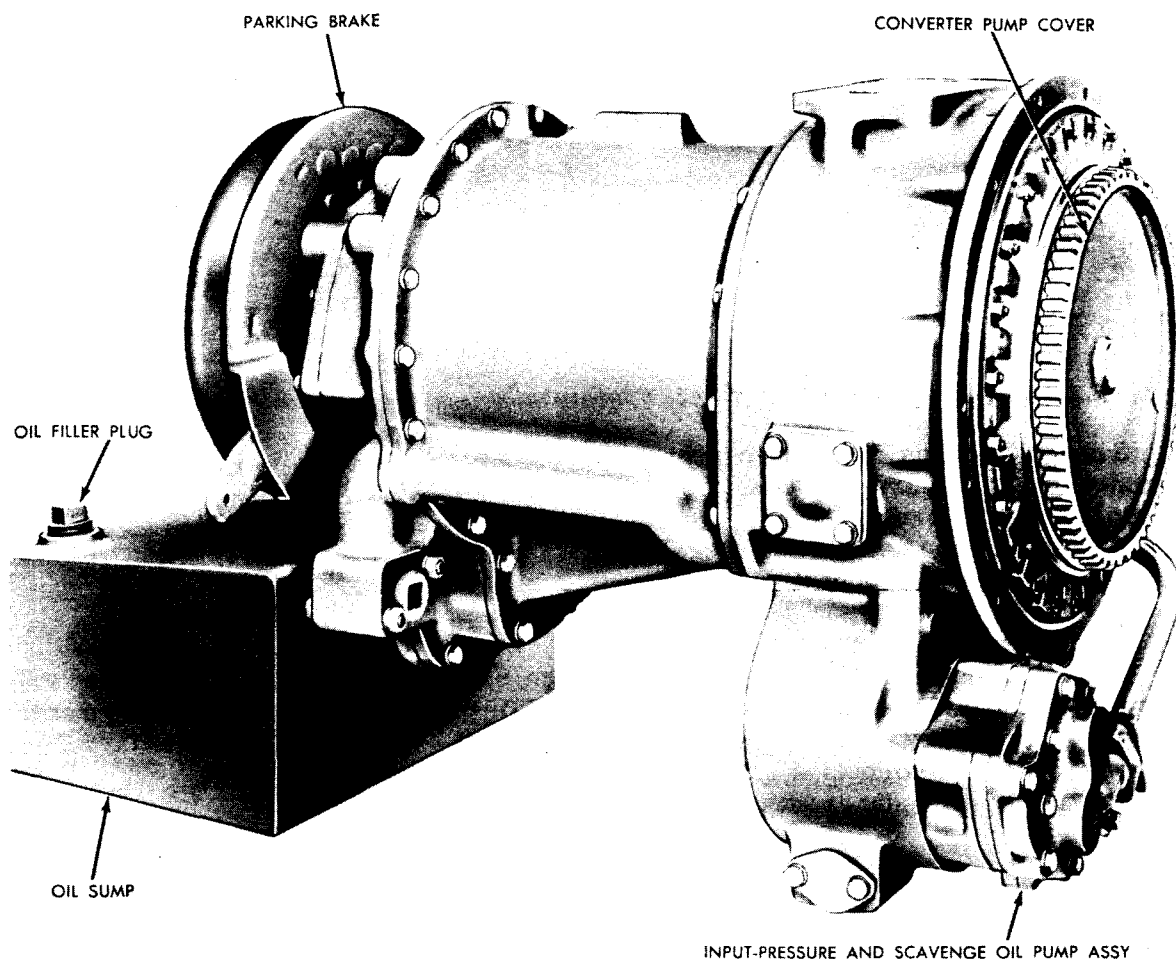

Fig. I-3. Model CRT 3321-3 or CRT 3331-3 transmission with direct-mount option—right front view
(2) Two speed ranges are available in CRT 3321 models; three in CRT 3331 models.
(3) Models with -1 suffix have a transfer case with front and/or rear outputs located 20 inches vertically below the transmission input center line (fig. I-1 and I-2). Those with -3 suffix have only a rear output directly in line with the input (fig. I-3 and I-4).
(4) Speed ranges, and forward and reverse, are manually selected at controls linked to hydraulic valves. The transmission is a single, compact unit which transmits power from the engine to the vehicle drive line. Individual features are discussed in subparagraphs b through g, below.
(1) Available for all models is a closed torque converter housing and input drive flange for mounting the transmission remote from the engine (fig. I-1). Also, available is provision for mounting the transmission directly on the engine (fig. I-3).